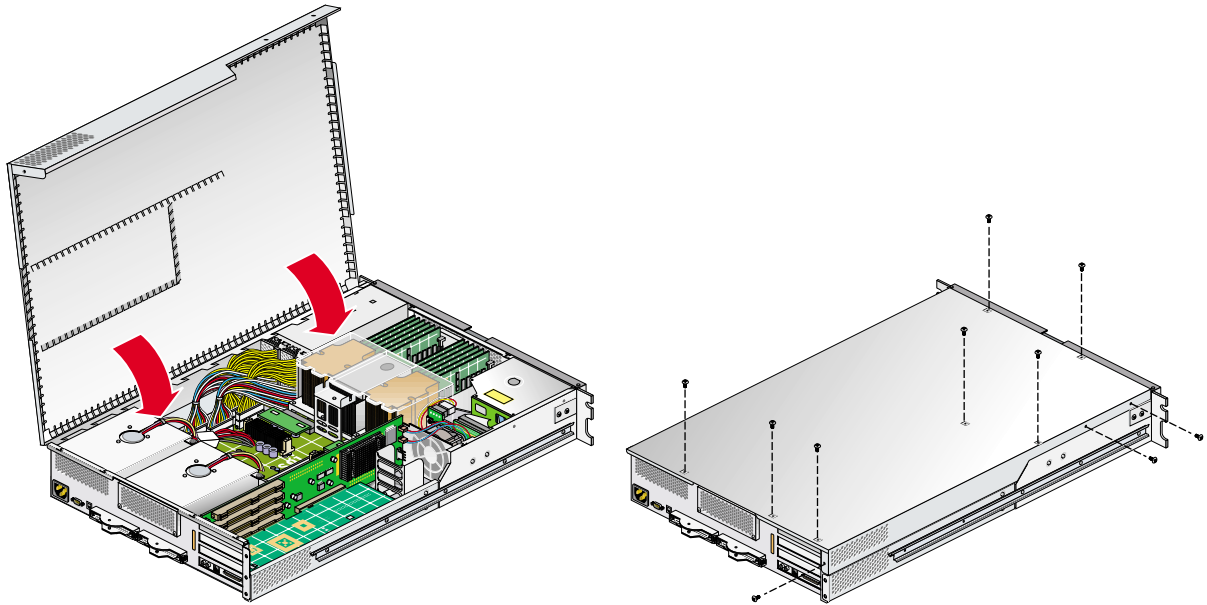

Figure 4-6 Closing the System Cover
1. Close the hinged cover on the system and screw in the ten Phillips screws to secure the cover, as shown in Figure 4-6.